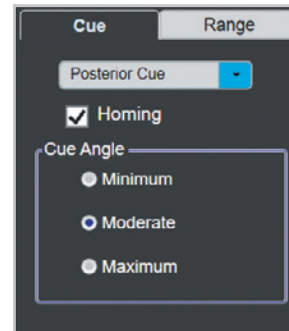

Figure 6-3:
3. If desired, select the Homing option to require the trolley to return to an overhead position when the patient is stationary. See Figure 6-3. Deselecting the Homing option will maintain an angled position when the patient is stationary.
4. Cue Angle may be adjusted to increase or decrease the rope angle from the vertical orientation by selecting the Minimum, Moderate, or Maximum radio buttons. See Figure 6-3.